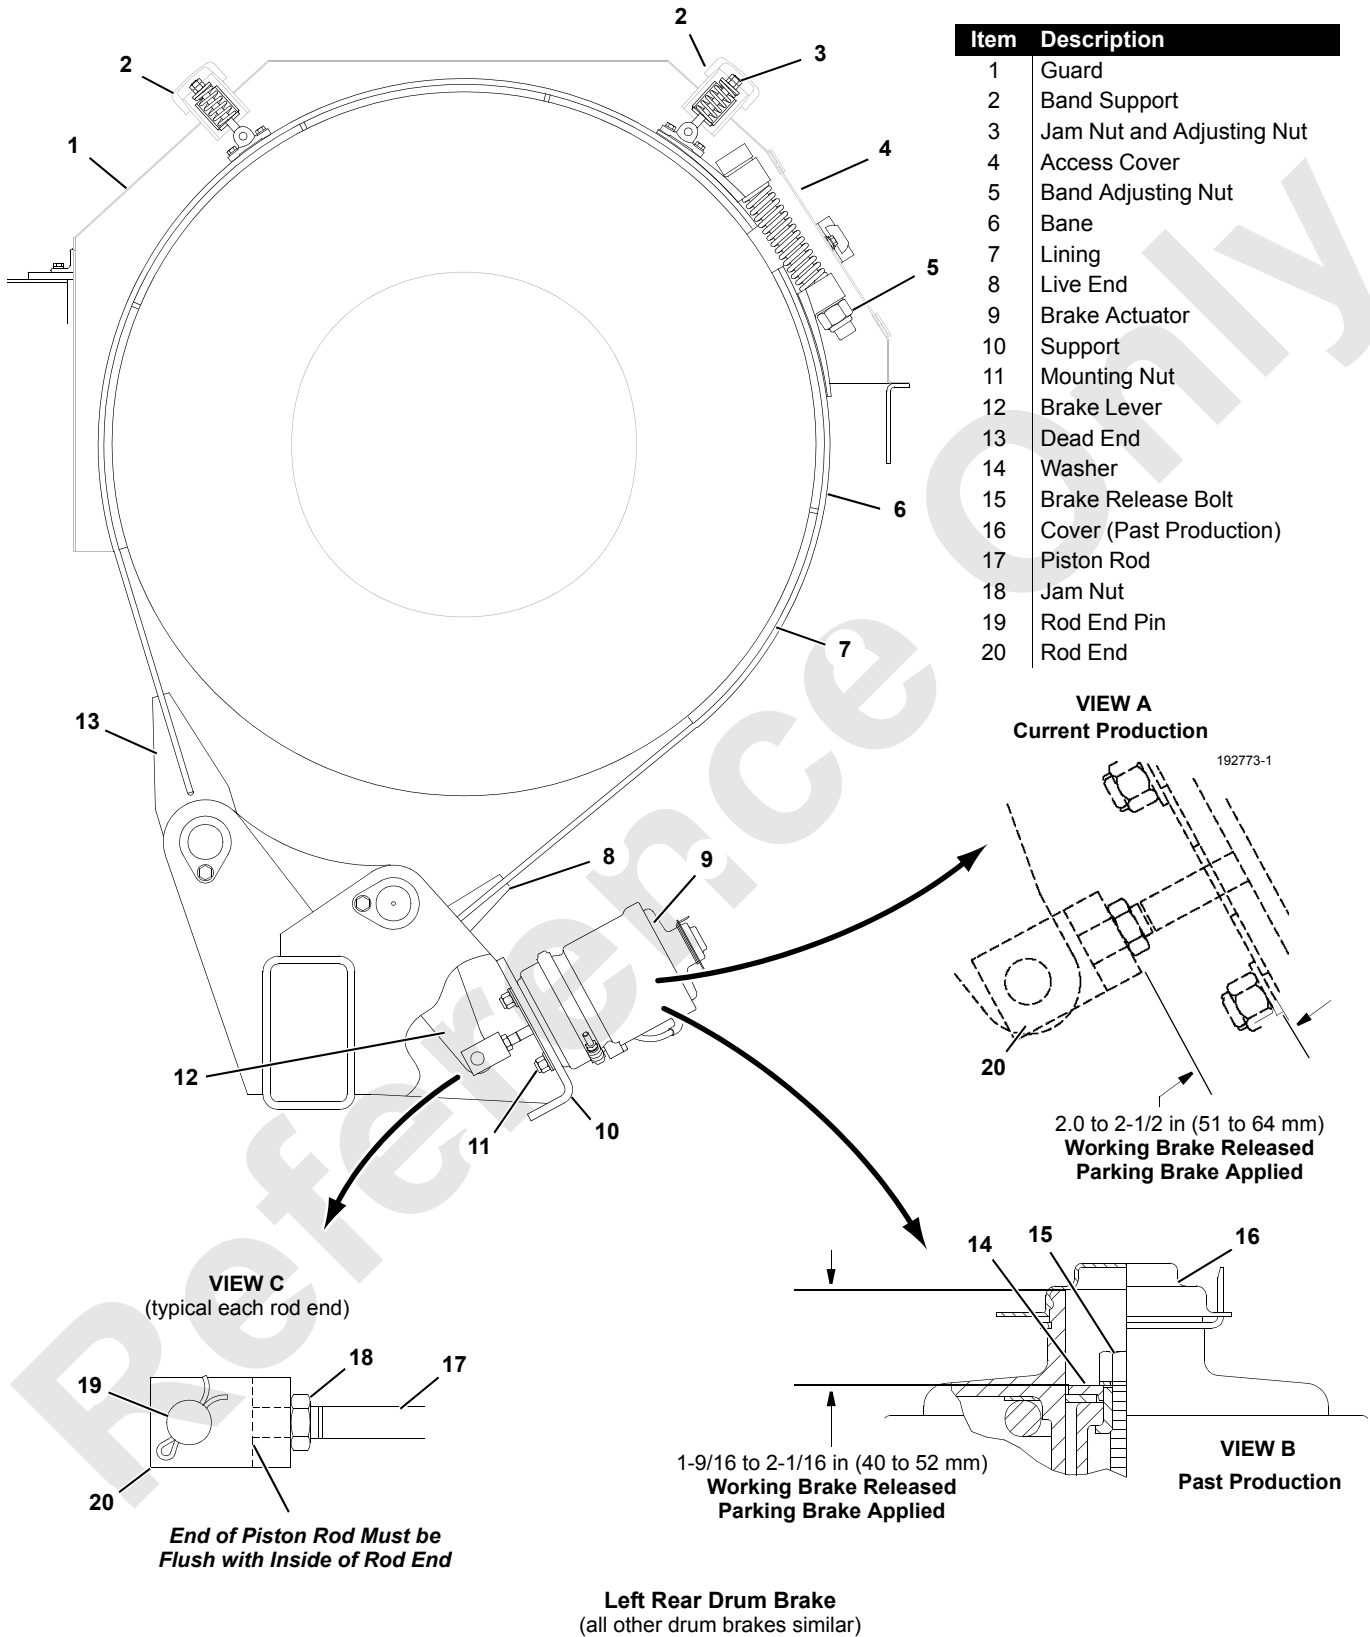

FIGURE 5-7
6. Check each brake band for proper adjustment as follows (see Figure 5-7):
Current Production — Measure distance from bottom of actuator to top of rod end as shown in Figure 5-7, View A.
Past Production — Measure distance from top of actuator to washer inside actuator as shown in Figure 5-7, View B. Dimension can be measured at either actuator on drum being serviced.
- If necessary, loosen jam nut at band supports (Figure 5-7). Turn adjusting nuts in required direction to provide clearance between lining and drum flange. Securely tighten jam nuts to lock adjustment.
See Figure 5-7 for the following procedure.